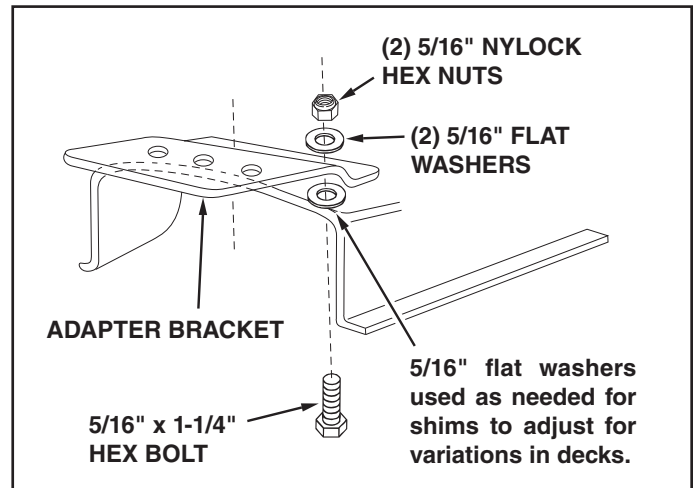

FIGURE 16
- Assemble the adapter bracket to the deck using two 5/16" x 1" hex bolts, 5/16" flat washers and 5/16" Nylock hex nuts. See figure 16.
NOTE: It may be necessary to use extra 5/16" flat washers to shim under the bracket next to the deck surface. Ten extra washers have been furnished as shims. See figure 16.